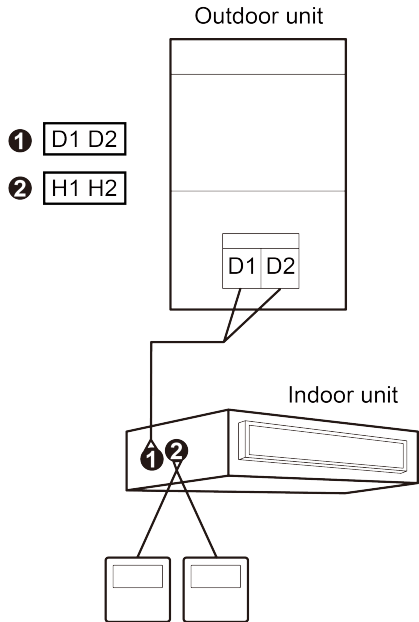

Fig. 5.7 Two wired controllers control one indoor unit
- (5) Network connection of wired controller and indoor units must be according to one of the four wiring methods as shown in fig 5.6-5.9. As for the connection method shown in fig 5.7 and 5.9, there should be only one master wired controller (address is 01) and one slave wired controller (address 02). The quantity of wired controller can't exceed two.
- ① Common Multi VRF Units;
- ② Fresh Air Units;
- ③ Double-heat Sources Units;
- ④ Combined Units; Except for fresh air units, double-heat sources units and combined units, the rest of indoor units belong to common multi VRF units.